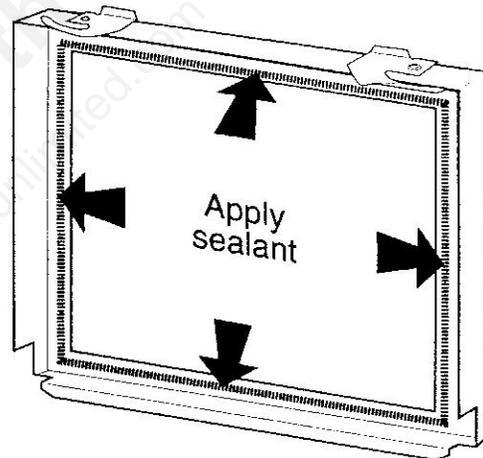

Figure 5-4. Apply a bead of sealant all around the window opening.
4. Apply a thin bead of silicone rubber sealant all around the perimeter of the frame opening, as shown in Fig. 5-4.